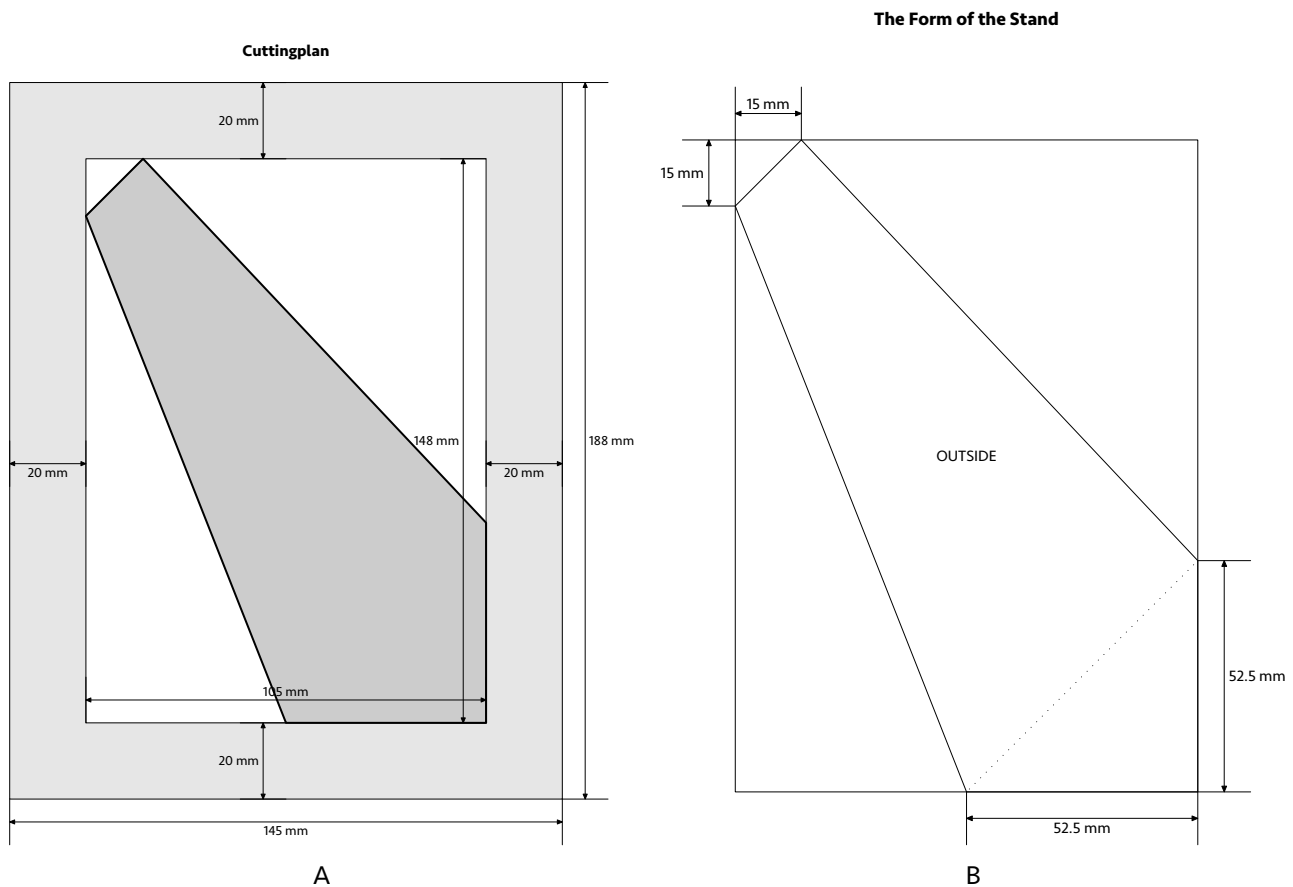

Figure 1 Layout for cutting
- Measure from the top left corner of the cut-out piece 15 mm as well down as to the right. Connect the two marks with a pencil line. - Mark from the lower right corner halfway the width of the piece (i.e. 52.5 mm) to the left and idem amount from the corner up. Connect the two marks with a pencil line. Write "Outside" on the board. Cut the piece for the stand with knife and ruler as shown in figure 1 B.
- Mark a line a shown in figure 1 B down right (dotted line). Mark the center of this line; then measure on each side 5 mm. Mark a line between the two points (this will become the slot for the ribbon).